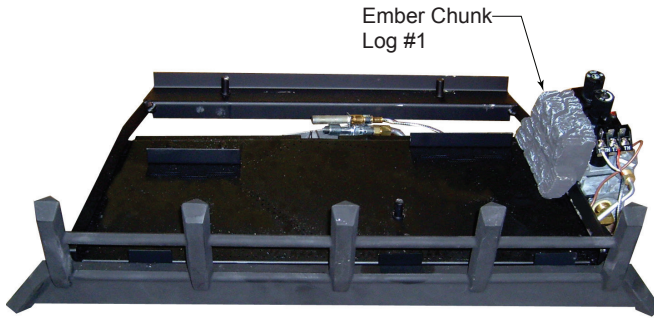

Figure 6.11 - Log #1 Placement
1. Place the #1 log (the "chunk") on the grate bar right side of the burner adjacent to the controls. See Figure 6.11.